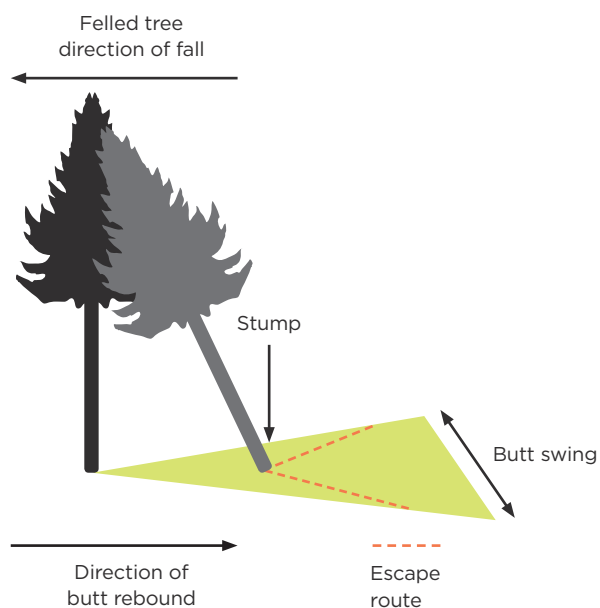

FIGURE 25: Danger zone extending back into the escape route where a felled tree hits another and causes a rebound
- 21.11.5 Any of these situations may compromise the escape route. Where a hung-up tree kicks back off the stump, the danger zone extends back behind it (Figure 25).